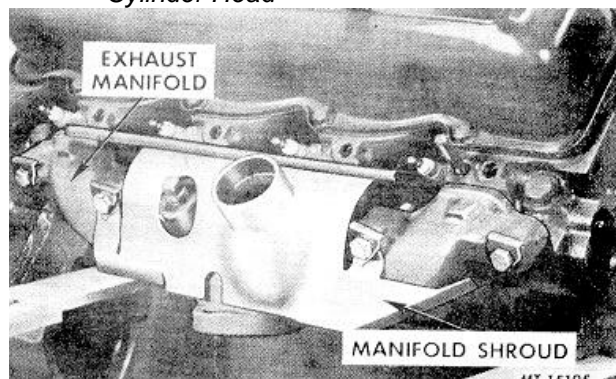

Fig. 27 Removing Heat Shroud
32. Remove the two mounting bolts securing the heat shroud to manifold and remove shroud, Fig. 27.